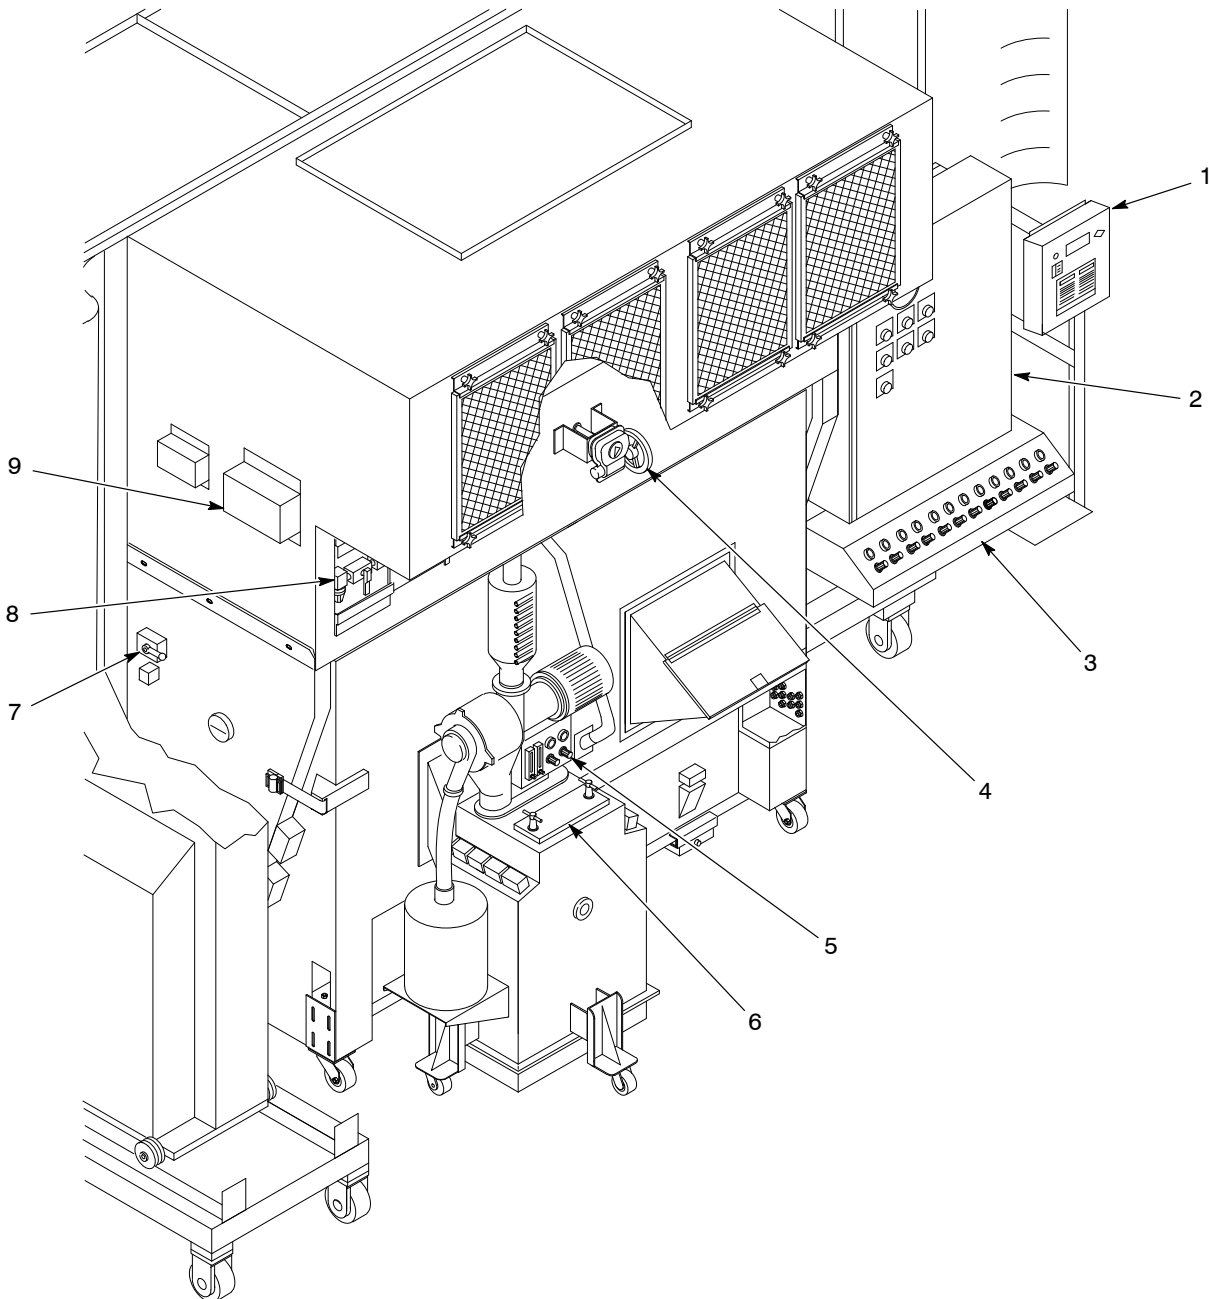

Figure 3-1 New System Startup (Pre-2003 System Shown)
See Figure 3-1.
You must adjust the fan damper to obtain the proper air flow through the enclosure before you begin to spray powder. Use the hand wheel (see Figure 3-1, (4)) on the front of the fan section to make the adjustment.